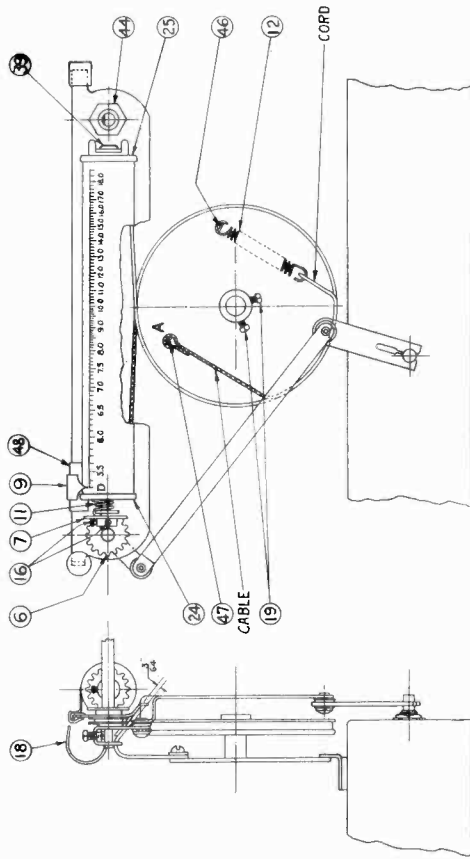

Fig. 5. Dial Mechanism
With set screws (19) loosened and tuning condenser plates fully engaged, place the drum in the position shown in Fig. 5 so that the top rim of the drum is  $\frac{3}{4}$  in. away from the mounting plate. Guide (48) should stop at equal distances from each end of the mounting plate slot.
The position of the dial scale pointer, with respect to the tuning condenser drum is fixed by means of a special metal braided cable connecting the drum with the guide (48). Tension is maintained on the cable through the drum spring (12) and drive cord. To replace either the drive cable or the drive cord, remove the dial scale for convenient access to guide (48). Unhook spring (12) from tab (46) to release tension. Unhook the cable or cord from guide (48) and unwind from the pulleys and drum. To replace the cable, rethread to agree with Fig. 5, and rehook drum spring (12) as shown.